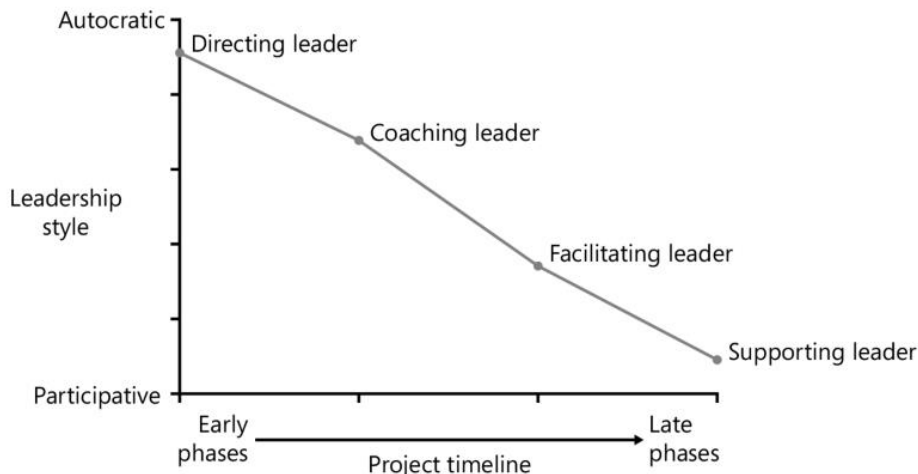

FIGURE 7-7 The types of project leadership required at different points of a project.
1. Leadership is the purposeful influencing of followers. A leader must have a clear vision of where he or she wants to take the followers. In relation to a project, a vision can be a successful project in terms of time, cost, and quality. Because leadership is essentially a relationship between the leader and follower, it must be built like any other human relationship, upon respect and trust, which are key elements of effective leadership. Project managers are responsible for developing their own leadership abilities, and must realize that different situations call for different leadership styles or the demonstration of a different set of leadership competencies. Because leadership is situational, the type of leadership required over time can change. Figure 7-7 shows how different leadership styles can change from a more autocratic style at the beginning of a project to a more participatory, or supporting, style of leadership toward the end of the project. This model indicates that a leader trusts the team members and gives away some of his or her power. Both trust and the ability to give away power are important attributes of a good leader.